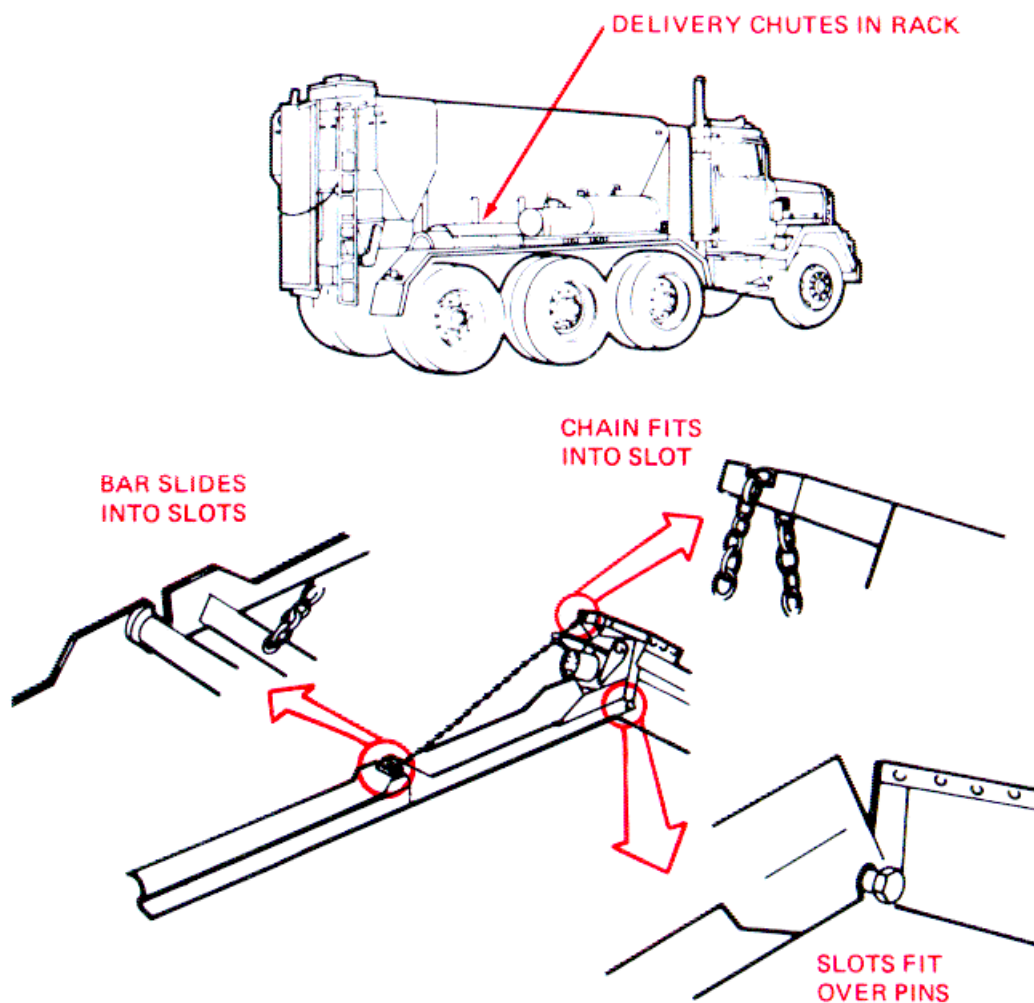

Figure 2-31. Delivery Chutes.
h. Attach Delivery Chutes. (See fig. 2-31.)